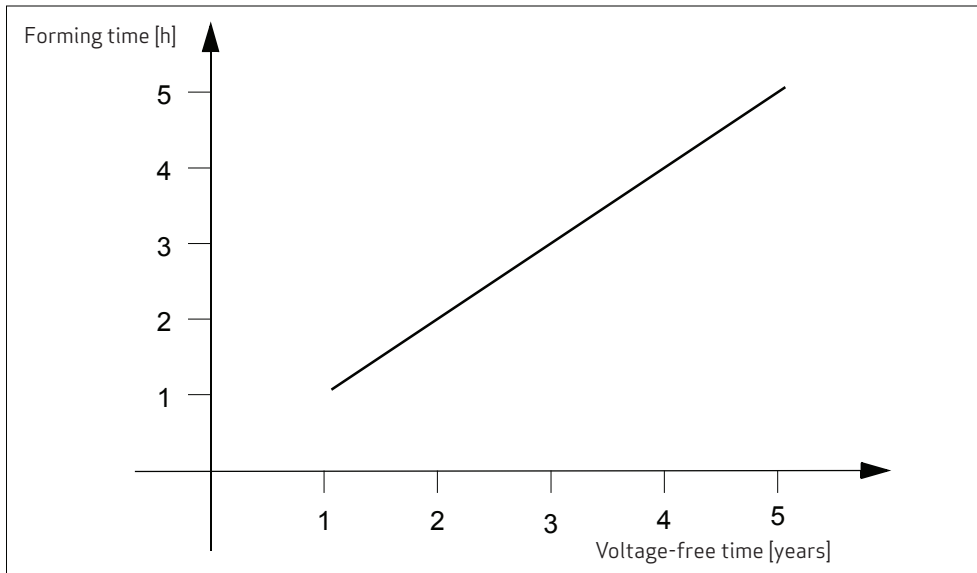

Fig. 13: Forming time as a function of the voltage-free time
- ☒ Allowed the unit to be formed for a period that corresponds to the voltage-free time (►► Figure 13).